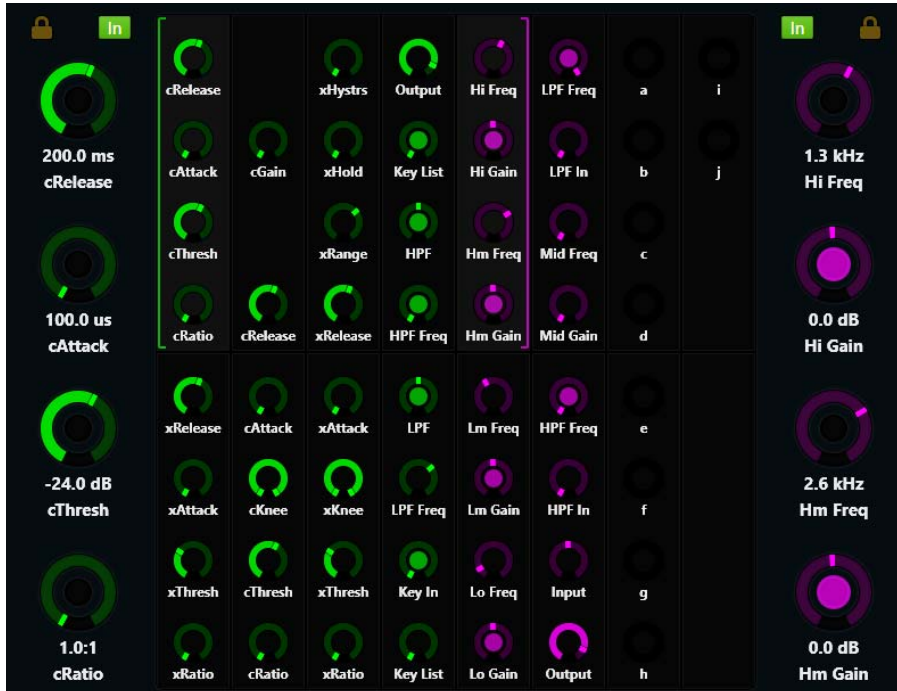

Figure 18. Function Editor
- A left bracket (green in Figure 18) indicates the controls to its right are assigned to the left Attention Track Knobs.
- A right bracket (purple in Figure 18) indicates the controls to its left are assigned to the right Attention Track Knobs.